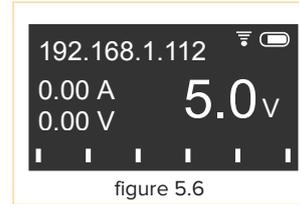

figure 5.6
Immediately after a successful connection to a Wi-Fi network, the device will display the received IP address on the screen (*Figure 5.6*).
- You can find out the IP address of the device in the configuration mode, by selecting Wi-Fi info from the menu (**Figure 5.8**). The PSU also displays it on the screen after a successful connection (**Figure 5.6**).